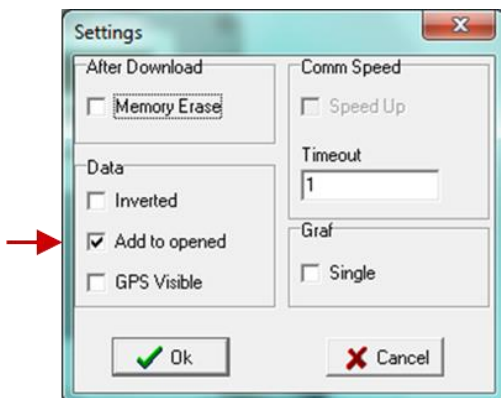

Fig. 26 Settings window: selecting the option Add to opened
1. In the FluorPen software open **Setup > Settings**. The settings window appears (Fig. 26). Select the **Add to opened** option.